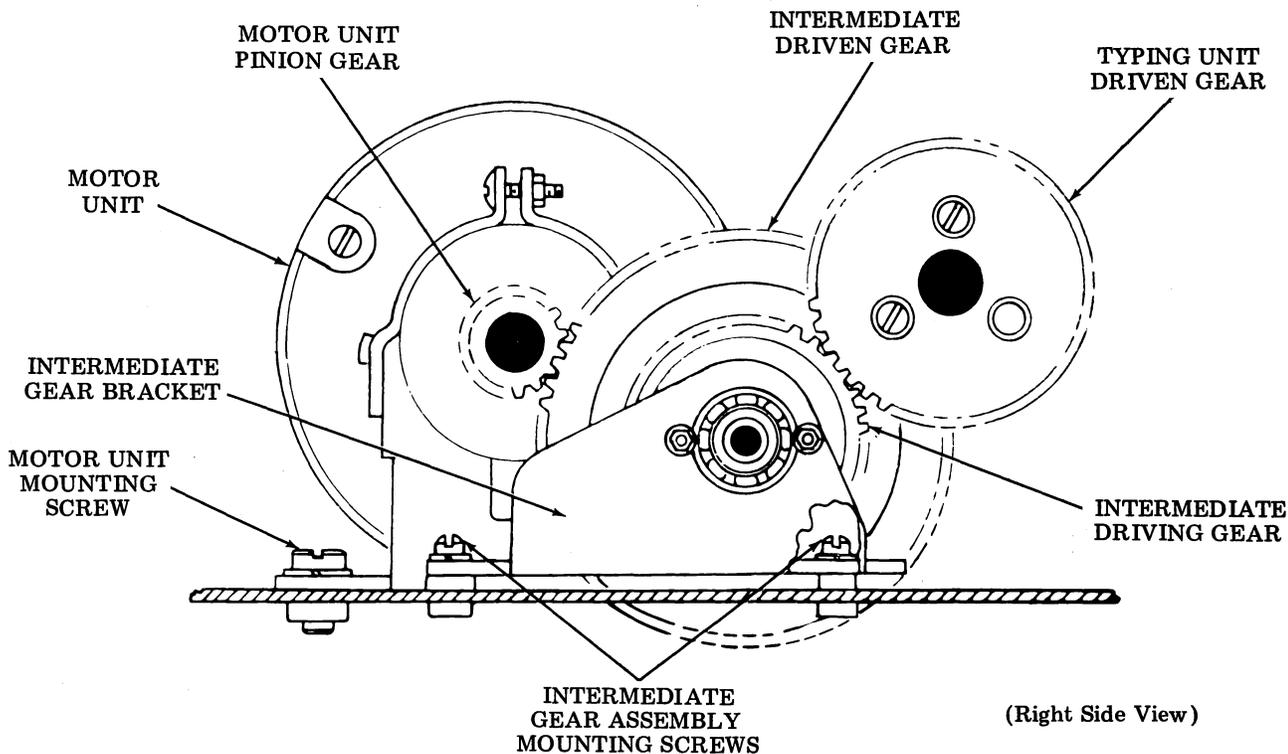

Figure 9 - Intermediate Gear Assembly
4.08 The motor intermediate gear assembly (Figure 9), and the typing unit driven gear should rotate freely without friction between the gears. The backlash should be barely perceptible as outlined in the requirements in the following paragraphs.